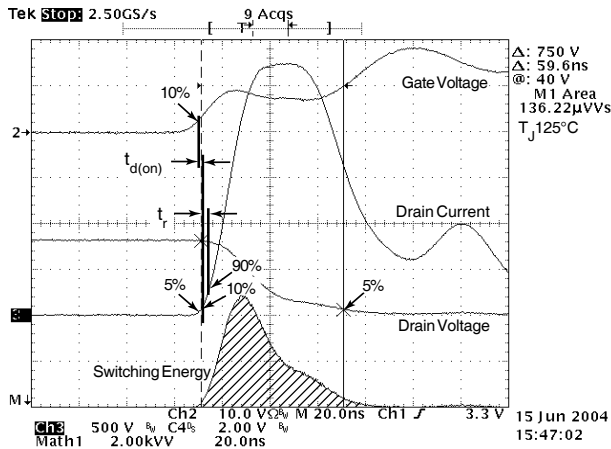

Figure 18, Turn-on Switching Waveforms and Definitions
① Repetitive Rating: Pulse width limited by maximum junction temperature
② Pulse Test: Pulse width < 380  $\mu s$ , Duty Cycle < 2%
③ See MIL-STD-750 Method 3471
④ Starting  $T_j = +25^\circ C$ ,  $L = 69.39mH$ ,  $R_G = 25\Omega$ , Peak  $I_L = 3.5A$
⑤  $dv/dt$  numbers reflect the limitations of the test circuit rather than the device itself.  $I_S \leq -I_D 3.5A$   $di/dt \leq 700A/\mu s$   $V_R \leq 1200$   $T_j \leq 150^\circ C$
⑥  $E_{on}$  includes diode reverse recovery. See figures 18, 20.